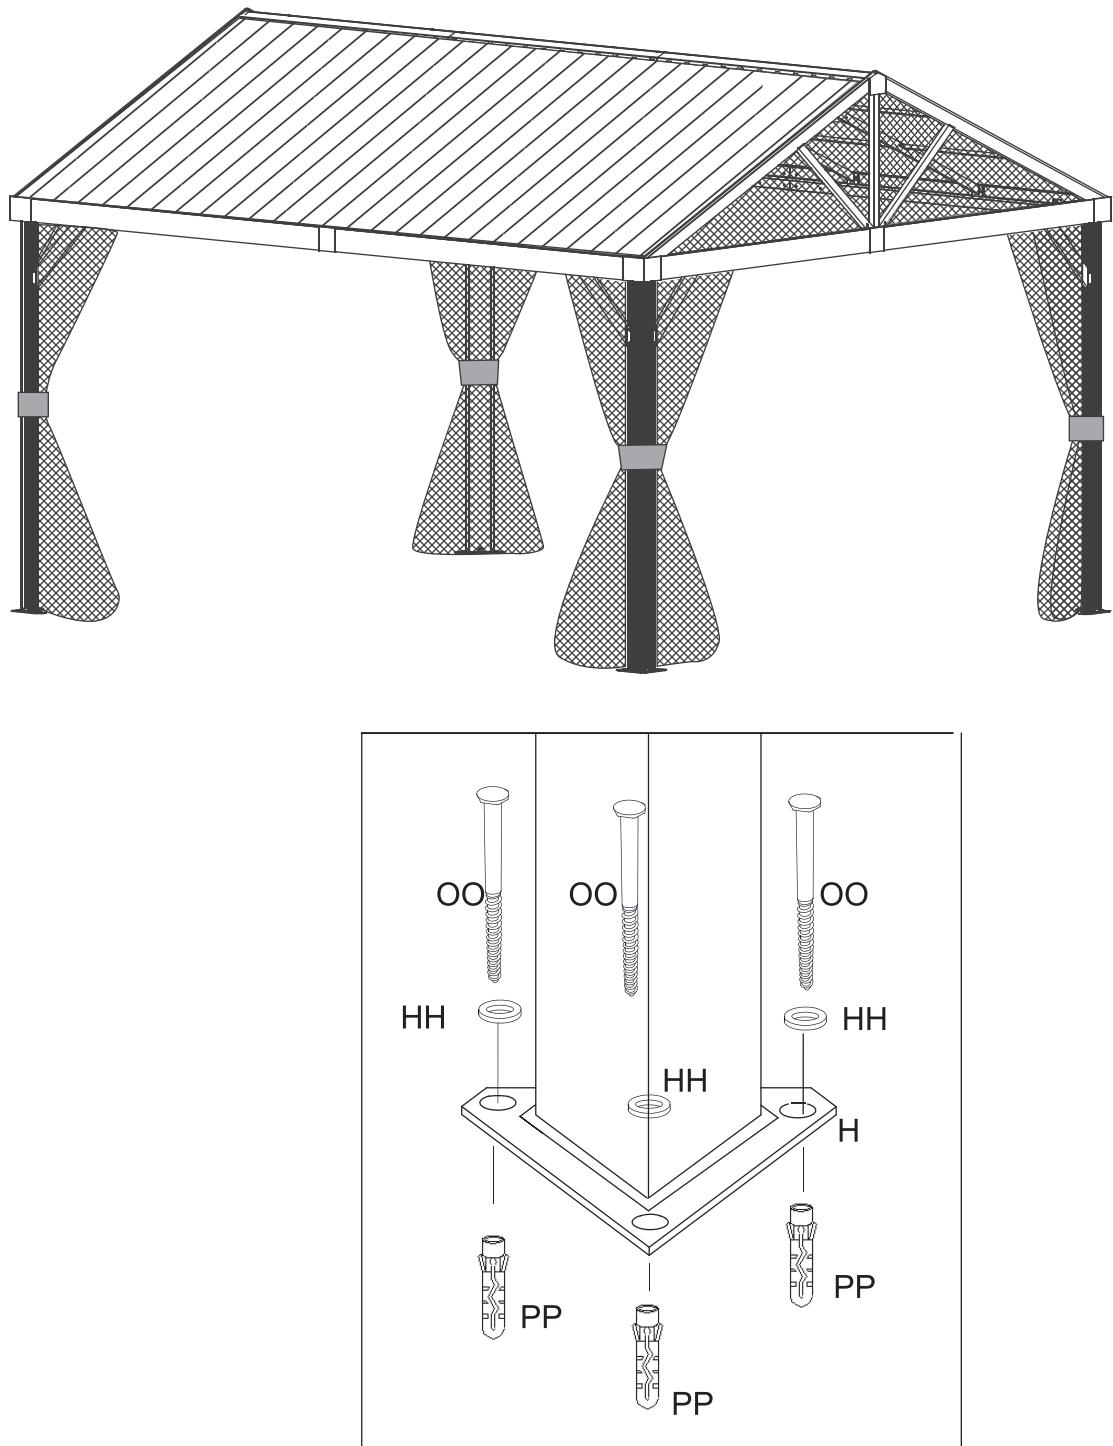

Figure 18
18. Secure the gazebo by anchoring into the base plate with Screws (OO), Washer (HH), and Plastic Plug (PP) plugs. See Figure 18.